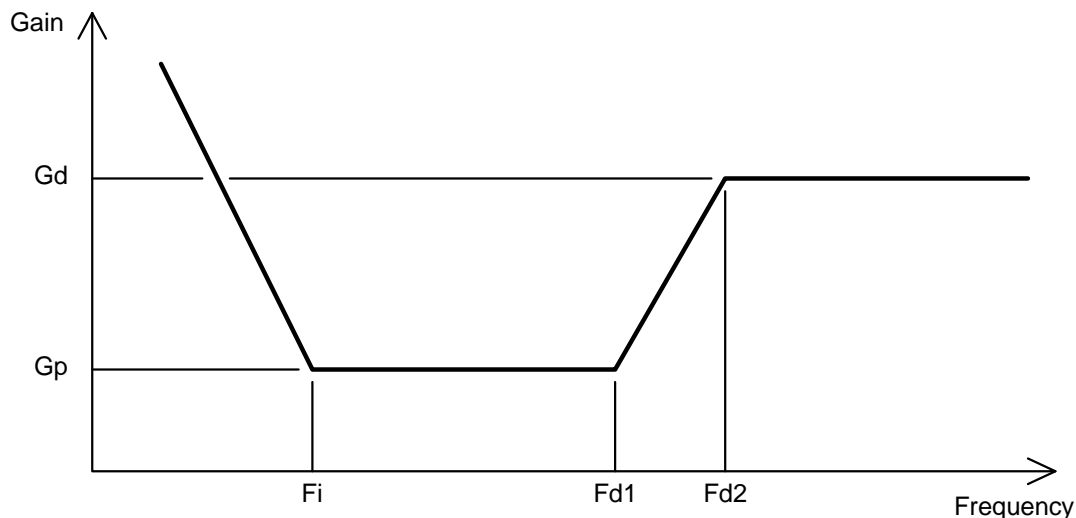

Figure 2 Control Loop Frequency Response
- $C_d \cdot R_i$ determines the corner frequency when the differential component starts picking up (see Figure 2), F_{d1} , as the frequency goes up.